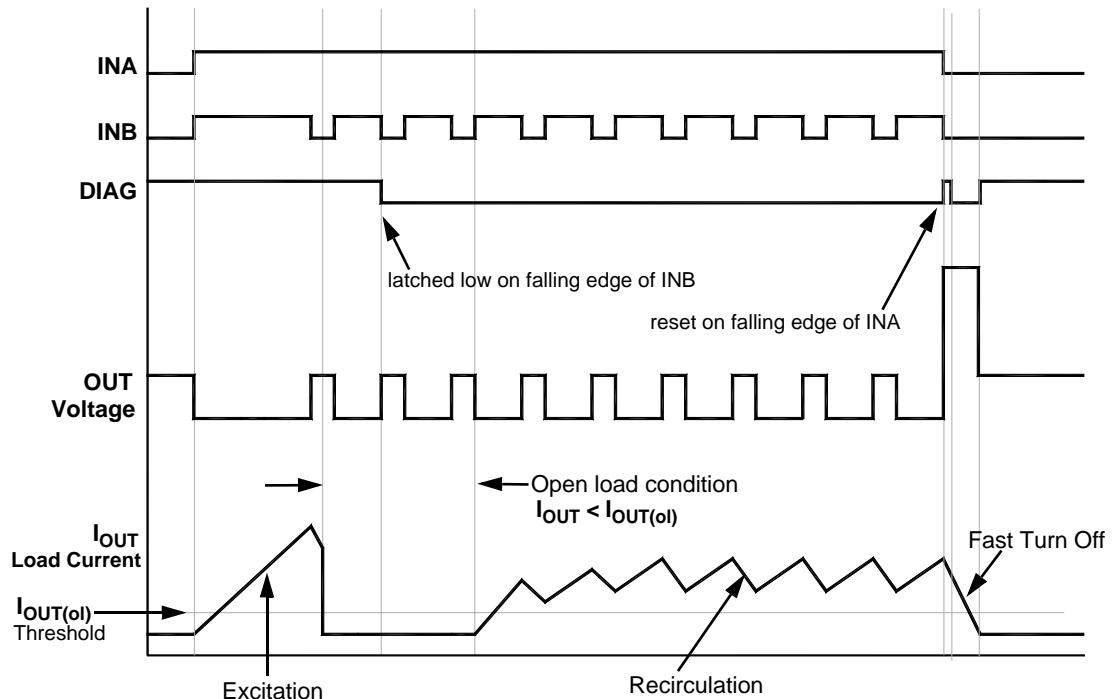

Figure 5. Intermittent Open Load
**Open Load Detect** (see figure 5) While **INA** and **INB** are high, if the load current fails to rise above the open load current level,  $I_{OUT(ol)}$ , before **INB** transitions low an open load diagnostic fault will be issued. The diagnostic pin will be driven low on the falling edge of the **INB** signal and remain low until **INA** is returned to a logic 0 condition. The open load detect mechanism senses current flowing through the NDMOS at the falling edge of the **INB** signal. If an open load condition exists during the Excitation phase but is corrected before the **INB** falling edge the open load condition would not be detected and the open load diagnostic fault would not be generated.